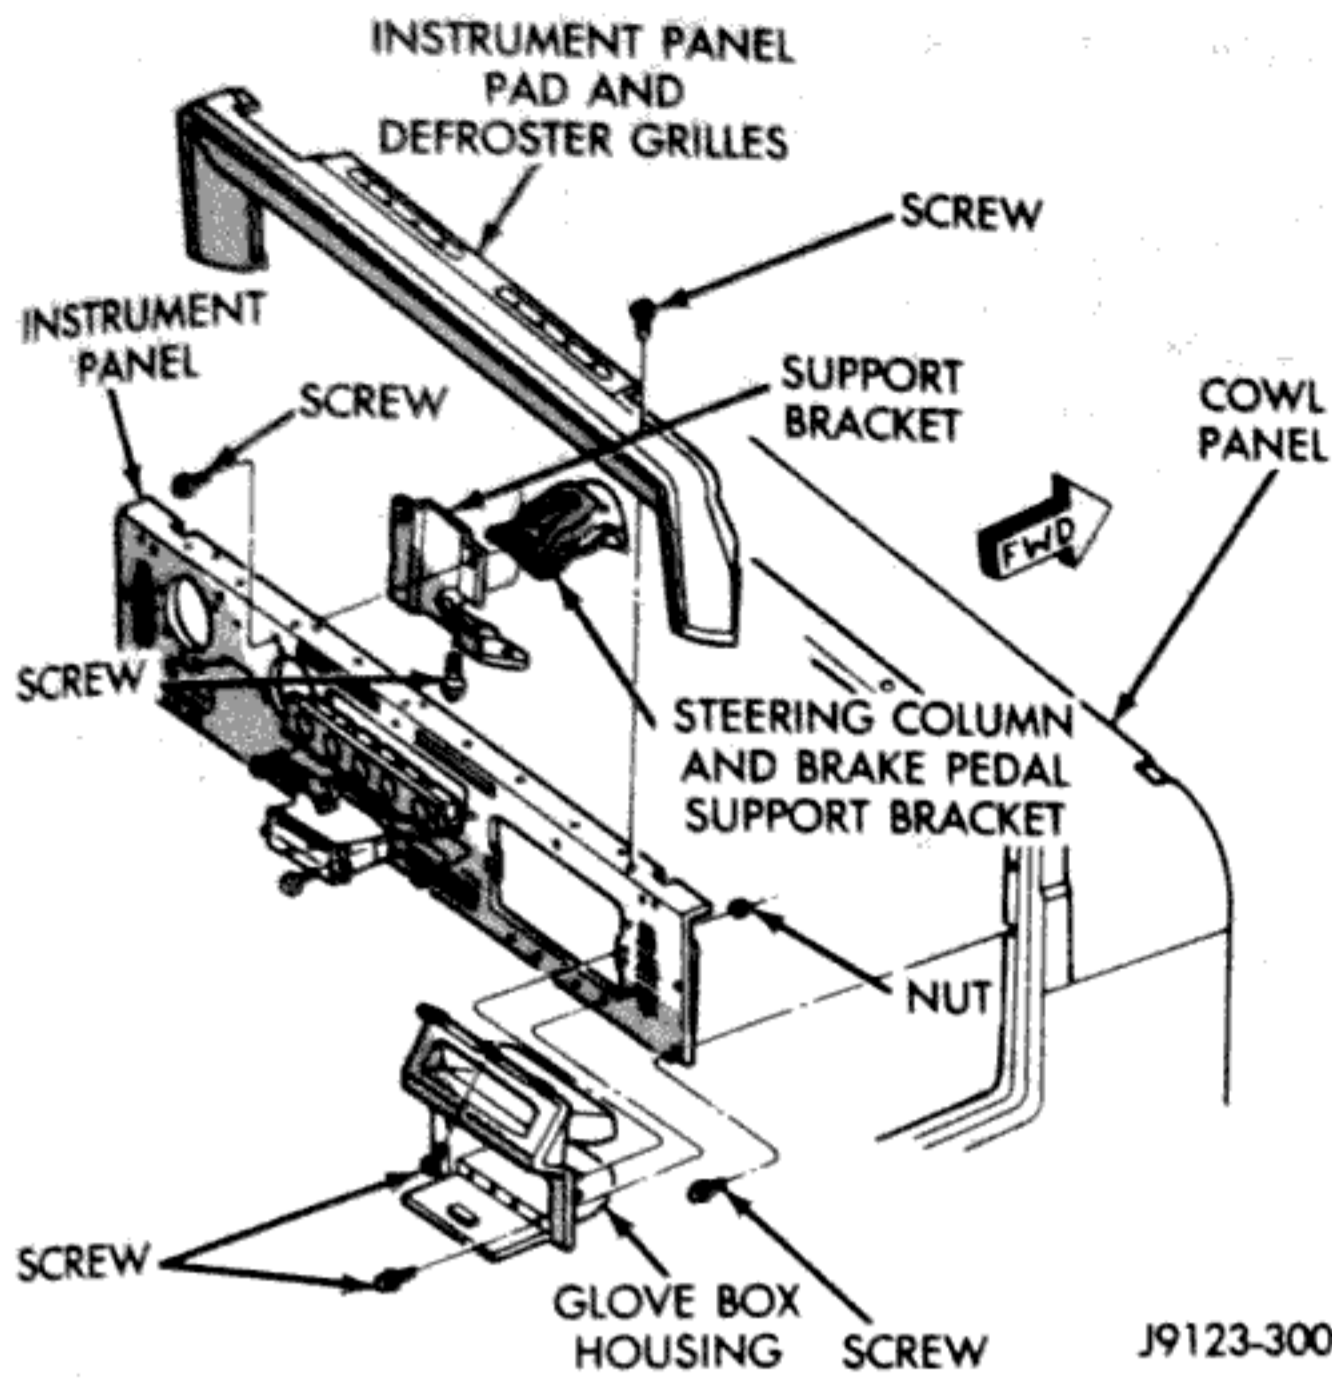

Fig. 7 Glove Box Removal/Installation
(1) Remove the glove box-to-instrument panel retaining screws (Fig. 7).